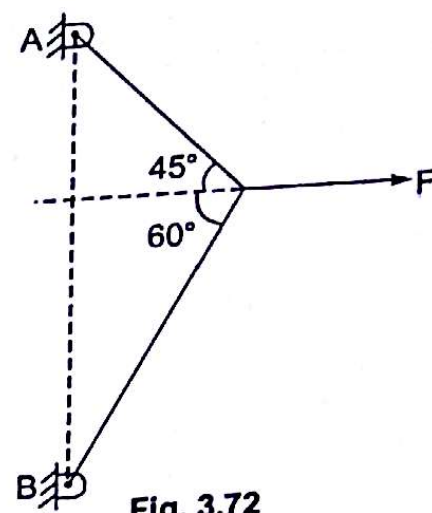

Fig. 3.72
3.20 The maximum force F in kN that can be applied at C (Fig. 3.72) such that the axial stress in any of the truss member does not exceed 100 MPa, if area of cross-section of each member is 100 mm²